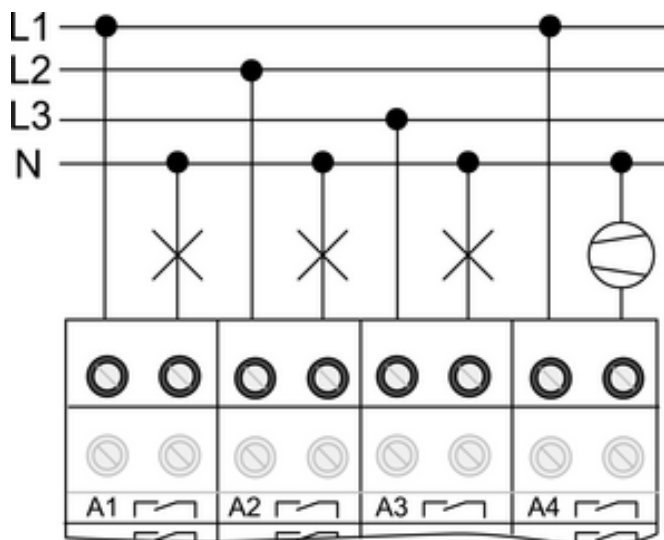

Figure 4
- Connected switched loads (Figure 4).